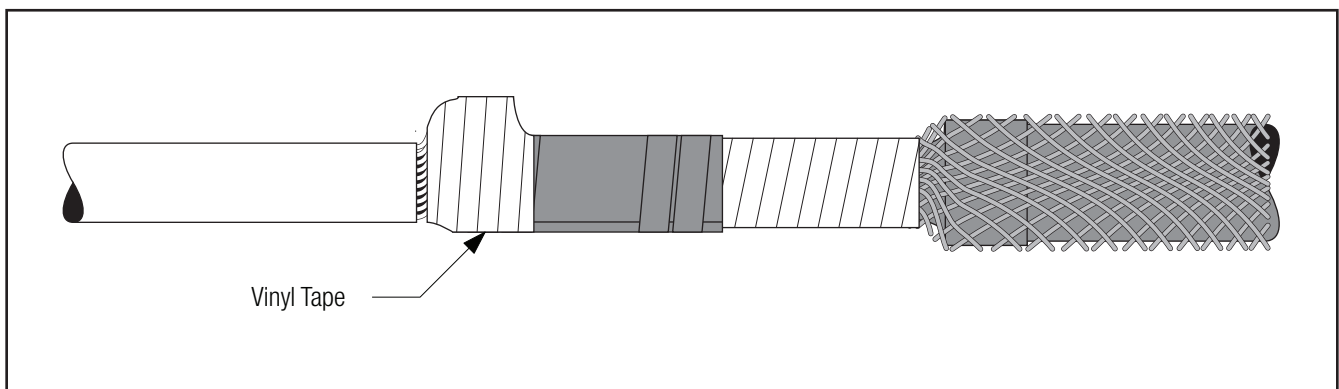

Figure 35
6.5.5 Fold connector over shield sleeve, ensuring that the connector is over the cable jacket piece, and secure with vinyl tape (*Figure 35*).